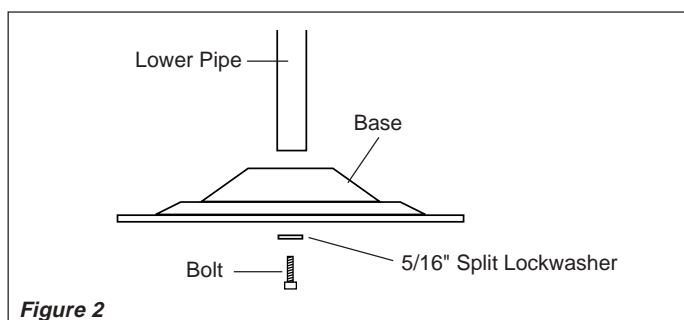

Figure 2
3. Attach Lower Pipe to Base using Bolt and Split Lockwasher. (Figure 2) FIRMLY tighten with supplied Hex Wrench.